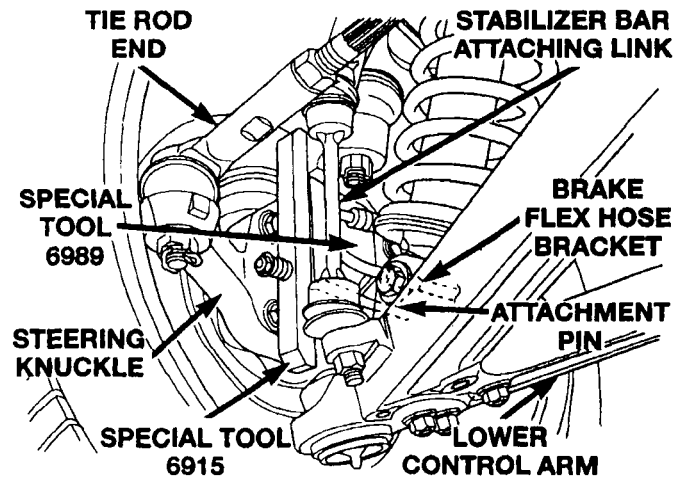

Figure 60 – Right Side Shown
- Once the inclinometers are attached to the front Caster Angle Fixtures, the fixtures can be mounted on the front knuckle caster pads as shown in Figures 60.